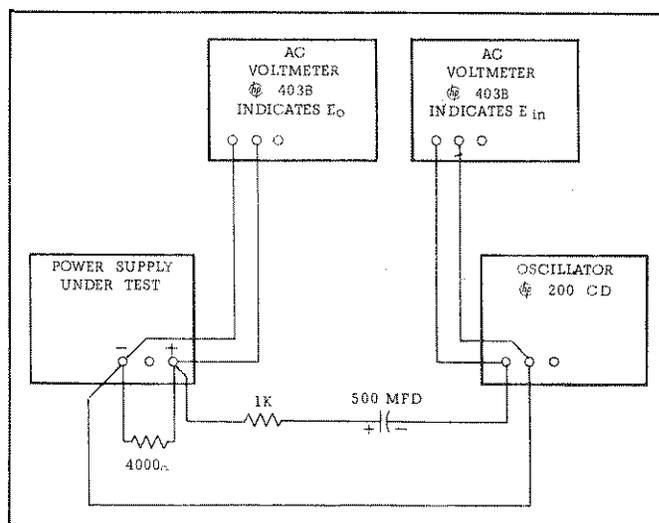

Figure 5-3. Output Impedance, Test Setup Diagram
a. Connect test setup shown in Figure 5-3.